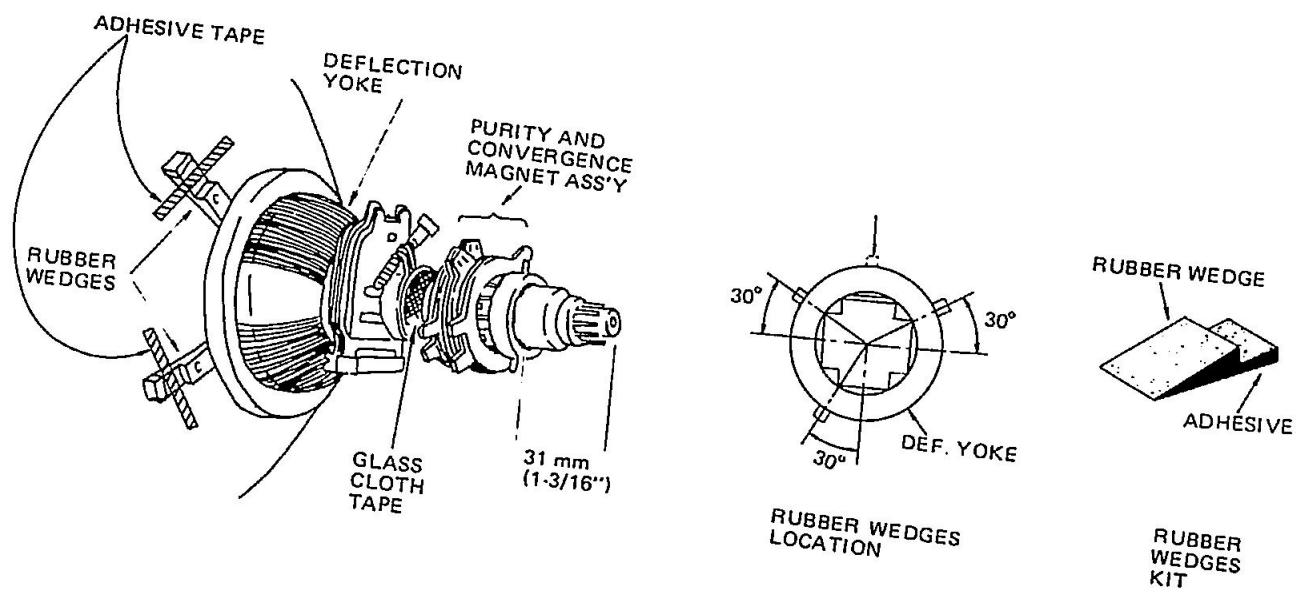

Figure 3. TUBE ASSEMBLY
9. Place 3 adhesive tapes over wedges, as shown in Figure 3.